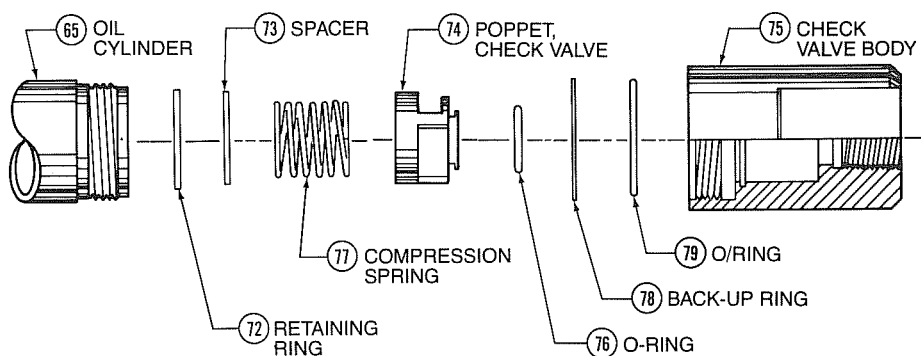

Figure 4-2, Inlet check valve components.
4.1.2 INLET CHECK VALVE ASSEMBLY. — See Figure 4-2.
5.7 In the inlet check valve portion of the pump, check the valve body (75), poppet (74) spring (77) and o-ring (76) for nicks, excessive wear or rust. See Fig. 4-2.